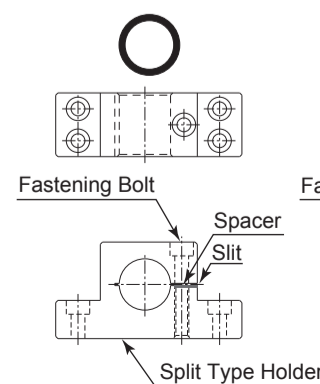
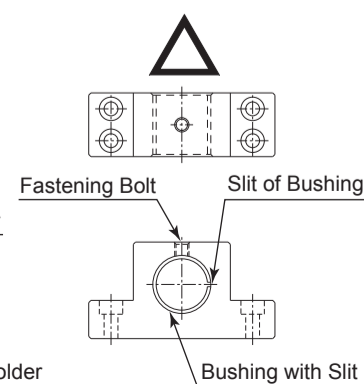

Fig. 7
Fig. 8
- When installing a Spindle to the holder, recommended installation method is shown Fig 7. Refer to "③ How to fabricate the Split Type Holder ". If this is not possible, install as shown in Fig. 8.